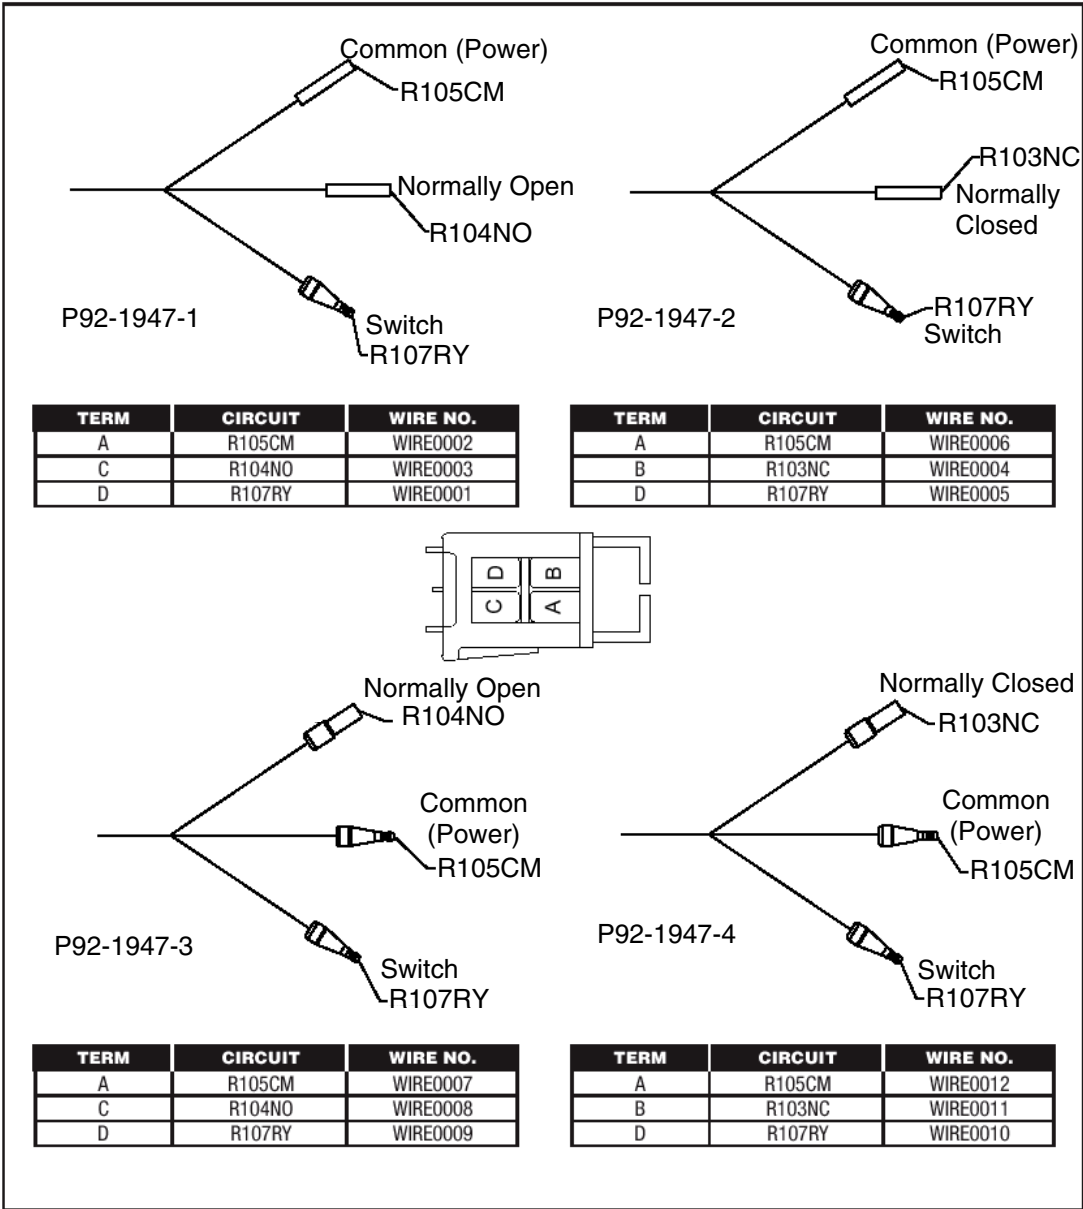

Figure 15-10
3. Plug one end of a spare relay harness (PN P92-1947-X) into the appropriate spare relay circuit connector. See Figure 15-10 on page 13.
**i** **NOTE:** Use a P92-1947-1 or -3 harness for a Normally Open (NO) spare relay circuit. Use a P92-1947-2 or -4 harness for a Normally Closed (NC) spare relay circuit.